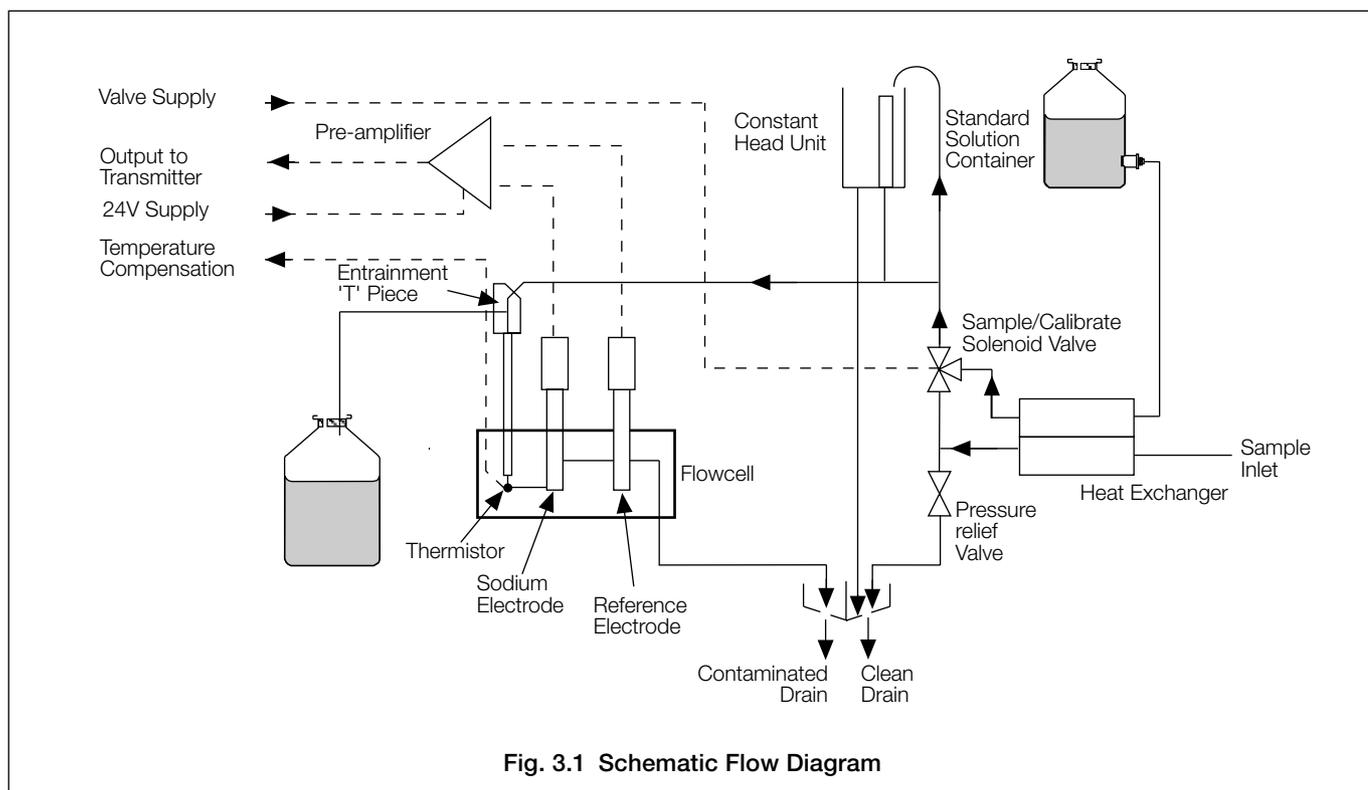
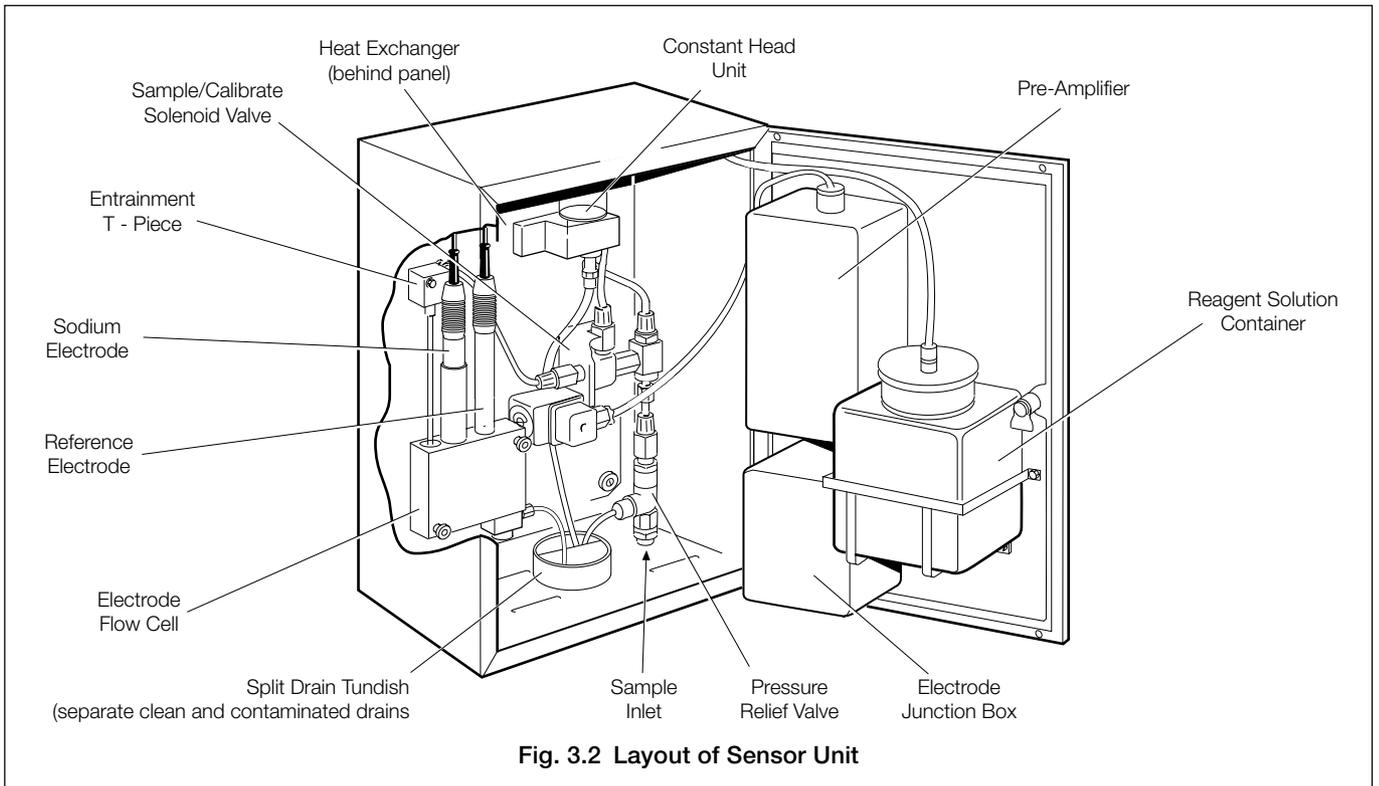

Fig. 3.1 Schematic Flow Diagram
Fig. 3.2 Layout of Sensor Unit
3.1 Sensor Units (Fig. 3.1 and 3.2)
A flow schematic is shown in Fig. 3.1 and the physical layout of the unit is shown in Fig. 3.2.